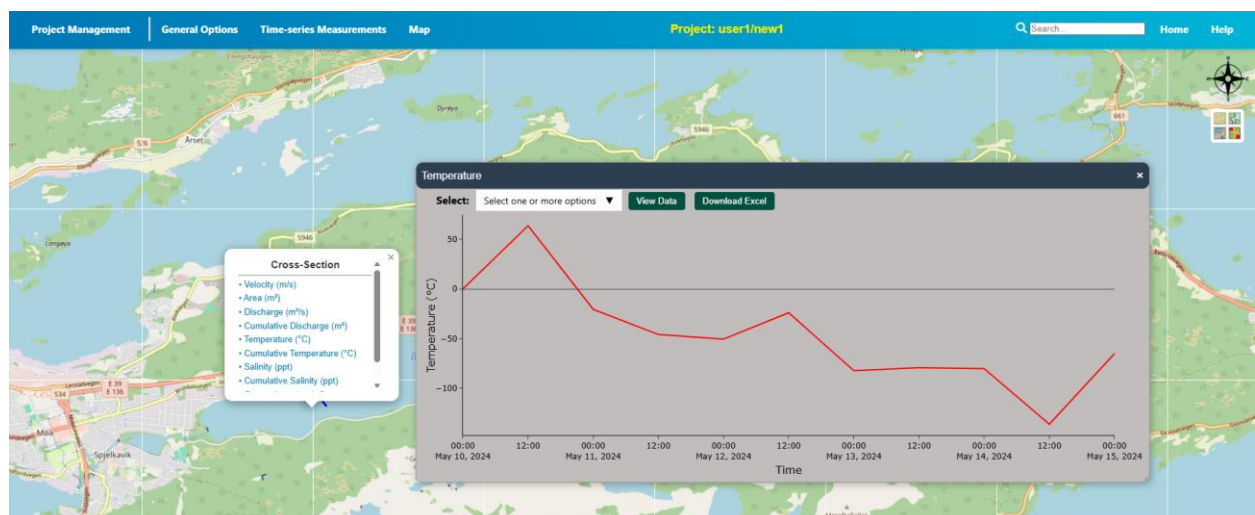

Figure 5.6. Cross-Sections properties
- By selecting cross-section on the map, user can select and visualize properties associated with this cross-section (Figure 5.6).